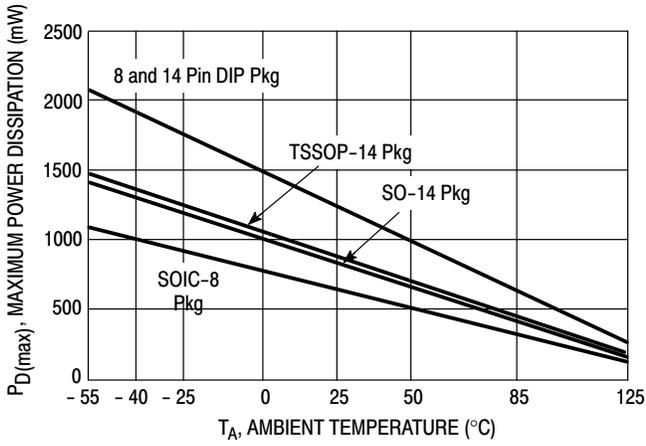

Figure 2. Maximum Power Dissipation versus Temperature
- Power dissipation must be considered to ensure maximum junction temperature ( $T_J$ ) is not exceeded. (See Figure 2)